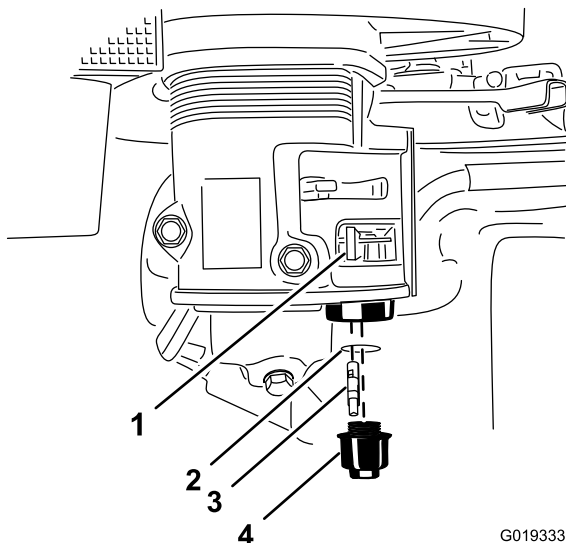

Figure 51
3. Move the lever of the fuel valve to the Off position, all the way to the left (Figure 51).
4. Unscrew the sediment cup (Figure 51).
5. Remove the fuel filter and O-ring (Figure 51).
8. Install the fuel filter in the bottom of the carburetor (Figure 51).